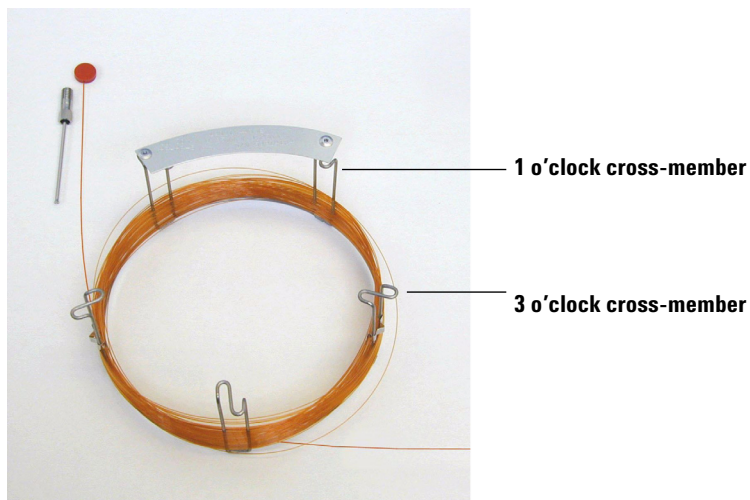

Figure 3 Column with 2 uncoiled loops
- 2 Remove the septum cap from the column OUTLET side and uncoil 2 column loops. See Figure 3.